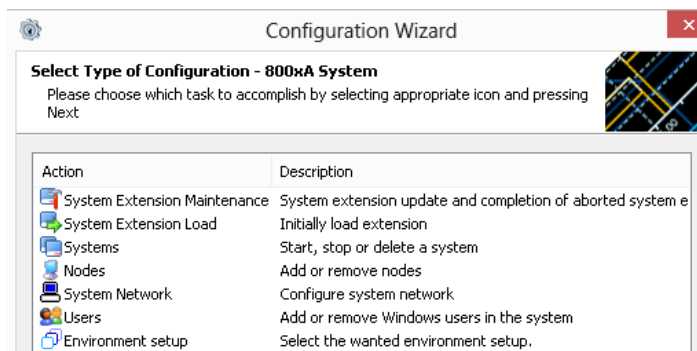

Figure 17. System Administration Dialog Box
1. In the System Administration dialog box, see Figure 17, select **Nodes** and click **Next**.
1. In System Administration dialog box, see Figure 17, select **Nodes** and click **Next**.